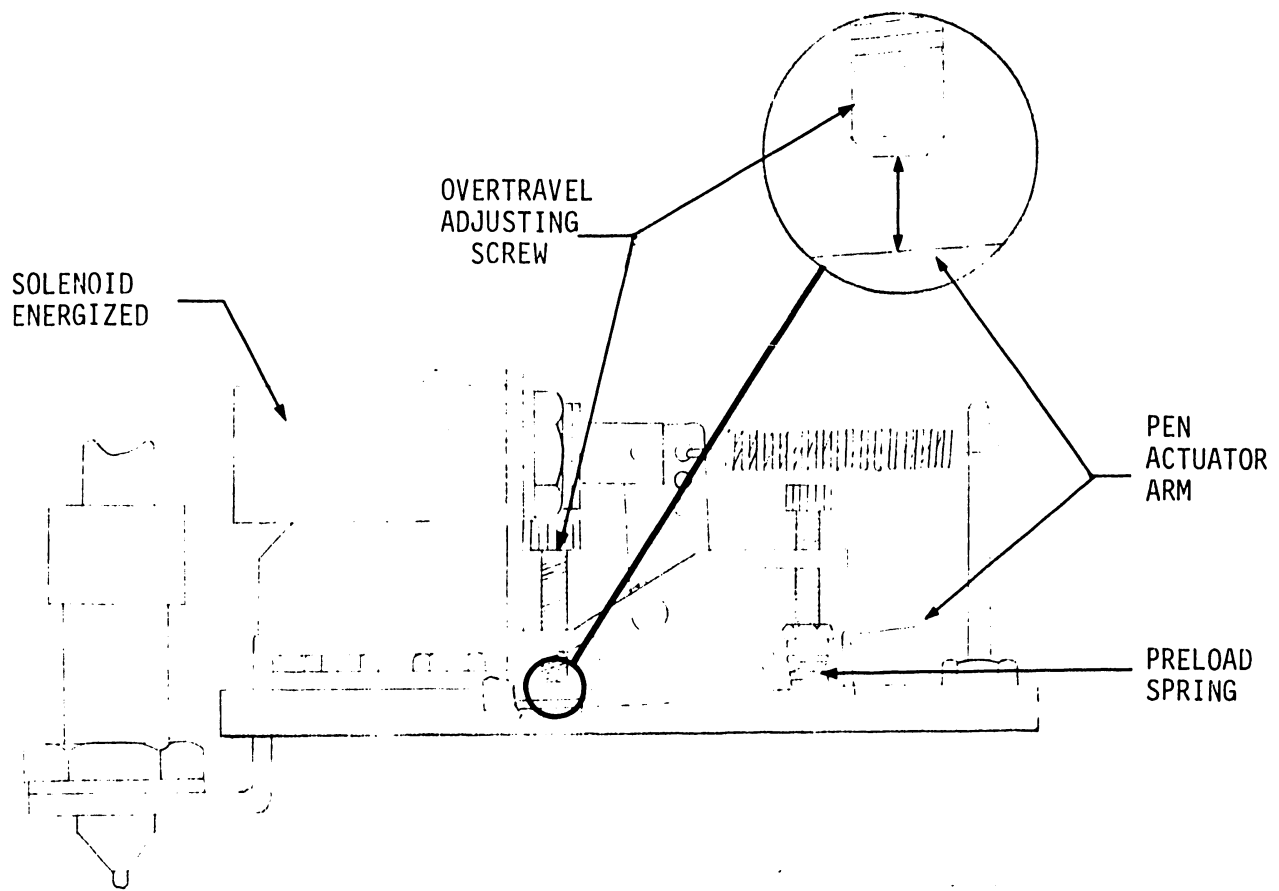

FIGURE 13
- 3) Energize the pen solenoid (α , 0502 - 600; WRITE ALPHA, 0902 - 700) there should be a gap between the overtravel adjusting screw and the pen actuating arm. See Figure 13.